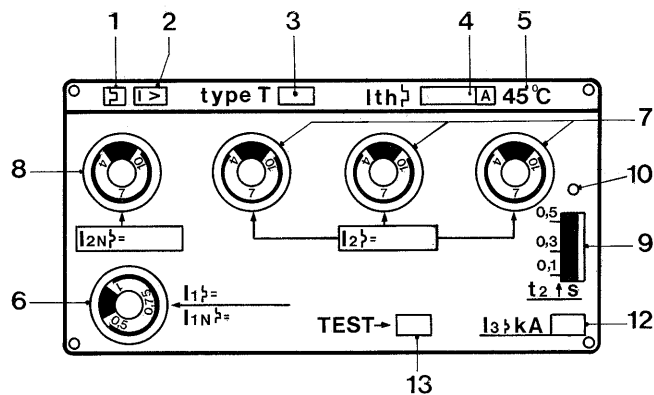

Fig. 5a (Tipi-Types T, Ts, Tsi)
- the adjuster [6] - Figs. 5a and 6 - that is provided for the T, Ts and Tsi types only, is single and common either for the phases and the neutral (the example shows an o/c release for a 4-pole breaker). This adjuster enables the setting of the I_1 operating current (for the inverse long time curve of thermal pattern). The setting range is adjustable 0,5 - 1 time the current value indicated on the release nameplate respectively for the phases (I_1) and for the neutral (I_{1N}).
- the adjusters [7] and [8] - Figs. 5a, 5b and 6 - for setting of the protection against short-circuits I_2 , operate independently on each phase and on neutral. They enable the setting of operating currents I_2 of the magnetic release with definite short time-delay or with instantaneous operation. The setting range is adjustable 4 - 10 times the current value indicated on the release nameplate respectively for the phases (I_2) and the neutral (I_{2N}).